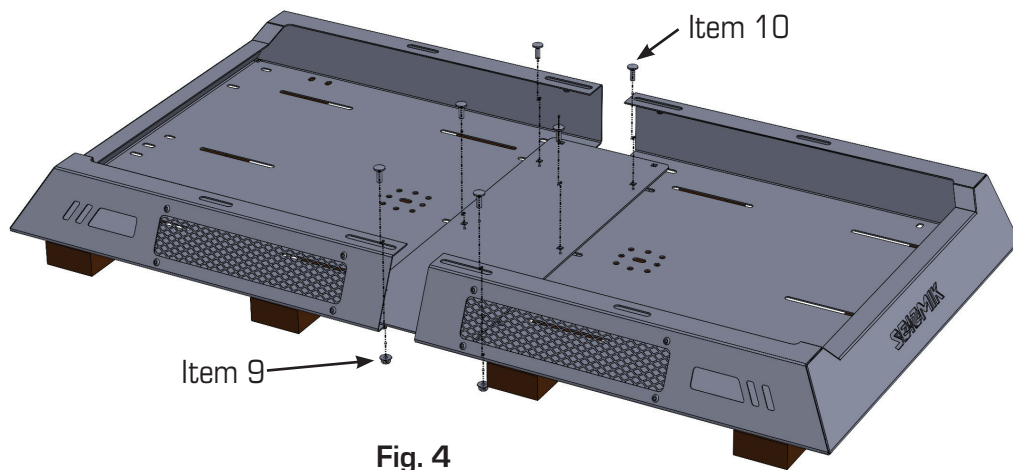

Fig. 4
3. Install six (6) Carriage Bolts (Item 10) from the top and loosely fasten with six (6) Flanged Nylon Lock Nuts (Item 9) as shown in Fig 4.